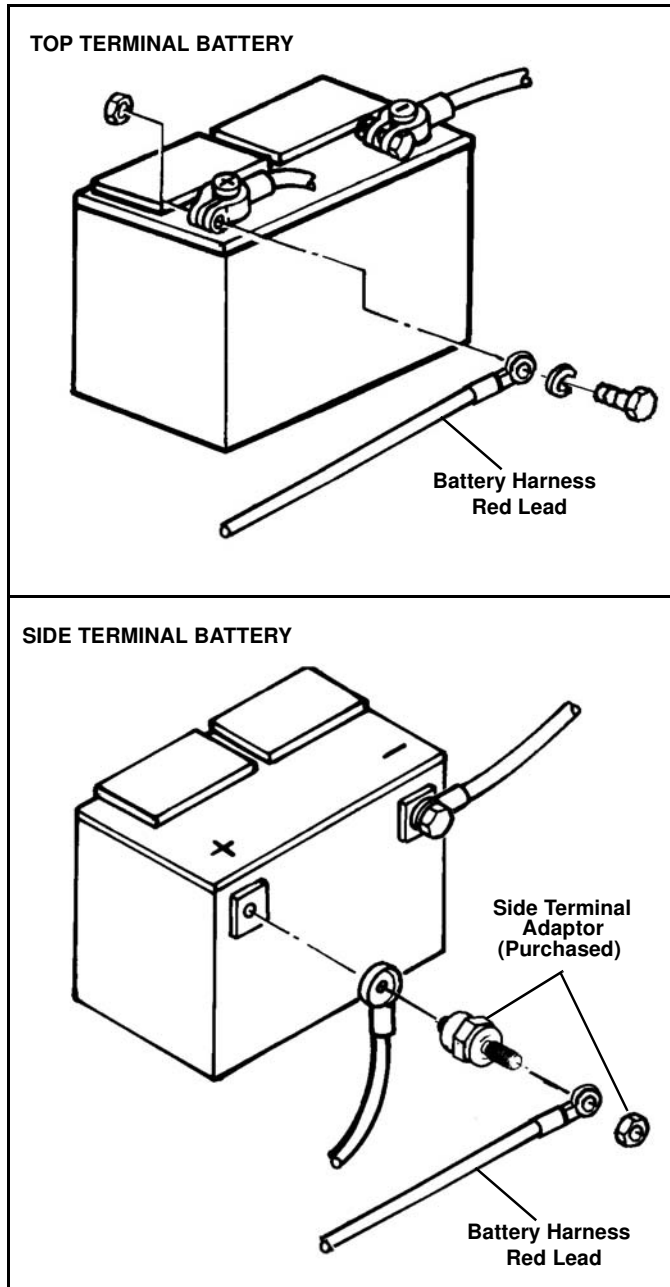

Figure 1-12
15. Attach the ring terminal of the positive (RED) wire of the battery wiring harness to the vehicle battery POSITIVE (+) post. (See Figure 1-12).